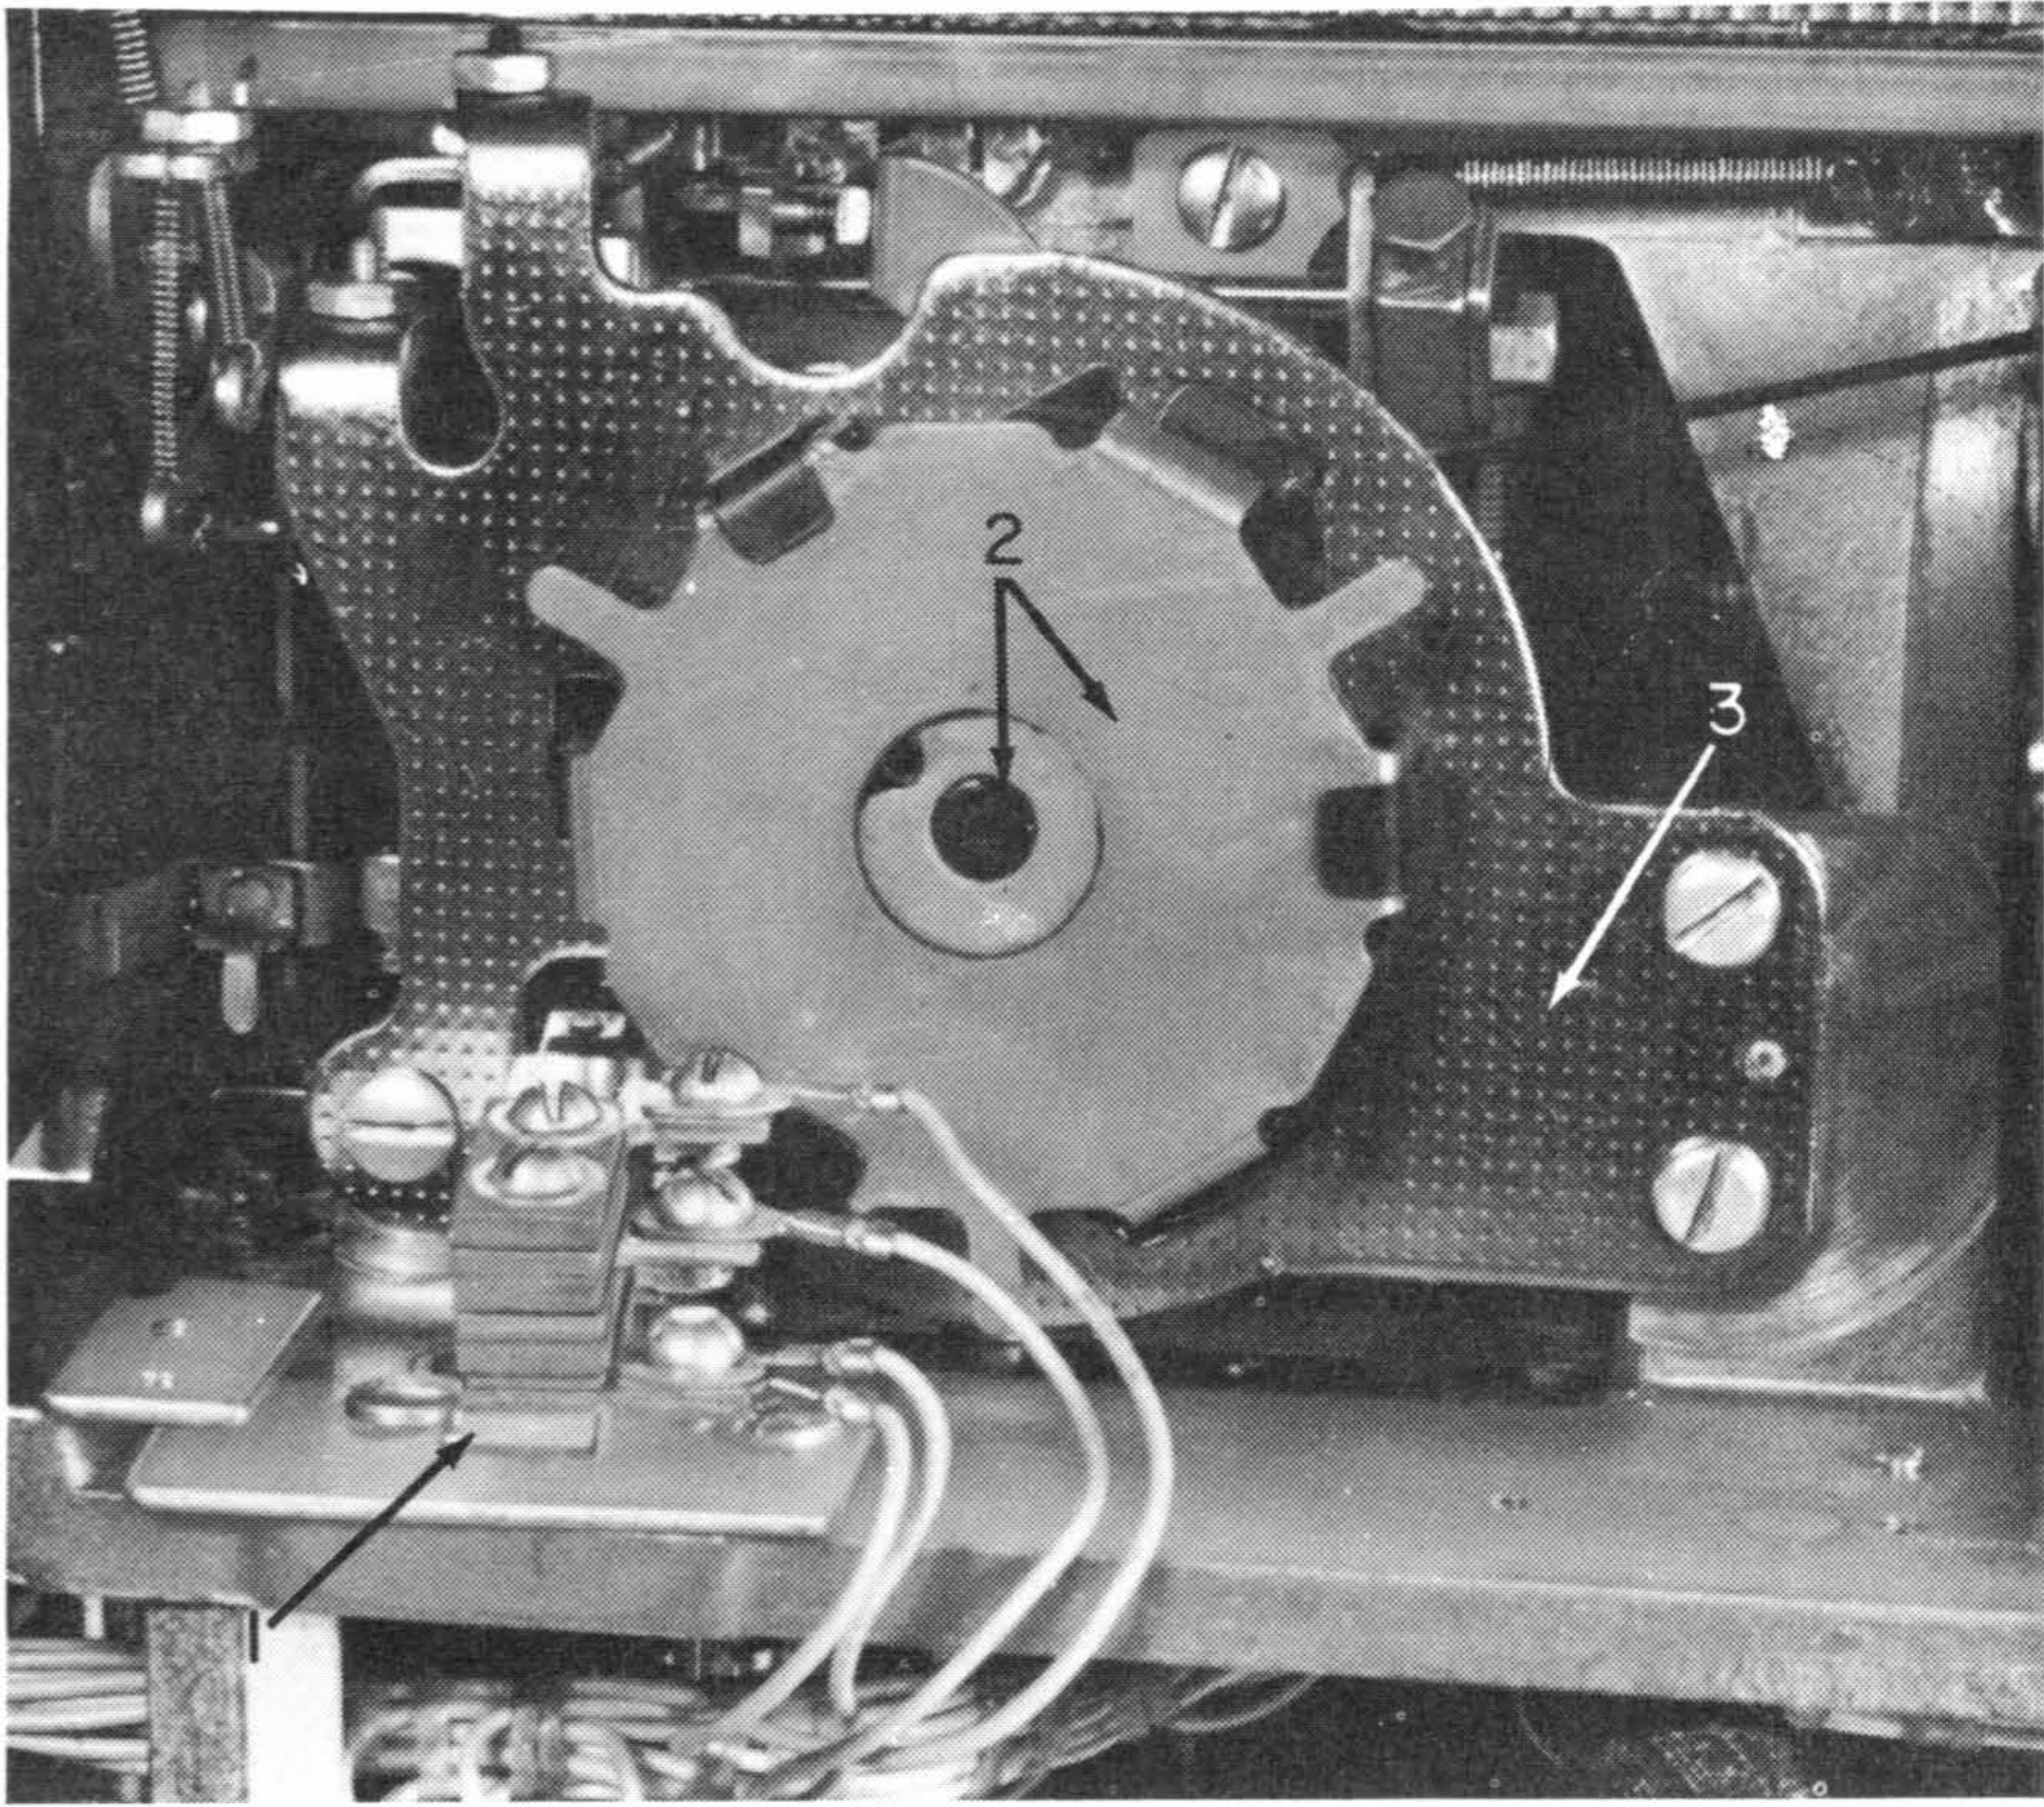

Figure 47. Operational Latch Bracket Removal
1. Remove the feedback-contact-assembly bracket by loosening the two screws (#1, Figure 47).
2. Remove the mainspring and hub (#2, Figure 47).
4. Remove the back plate (#3, Figure 47).